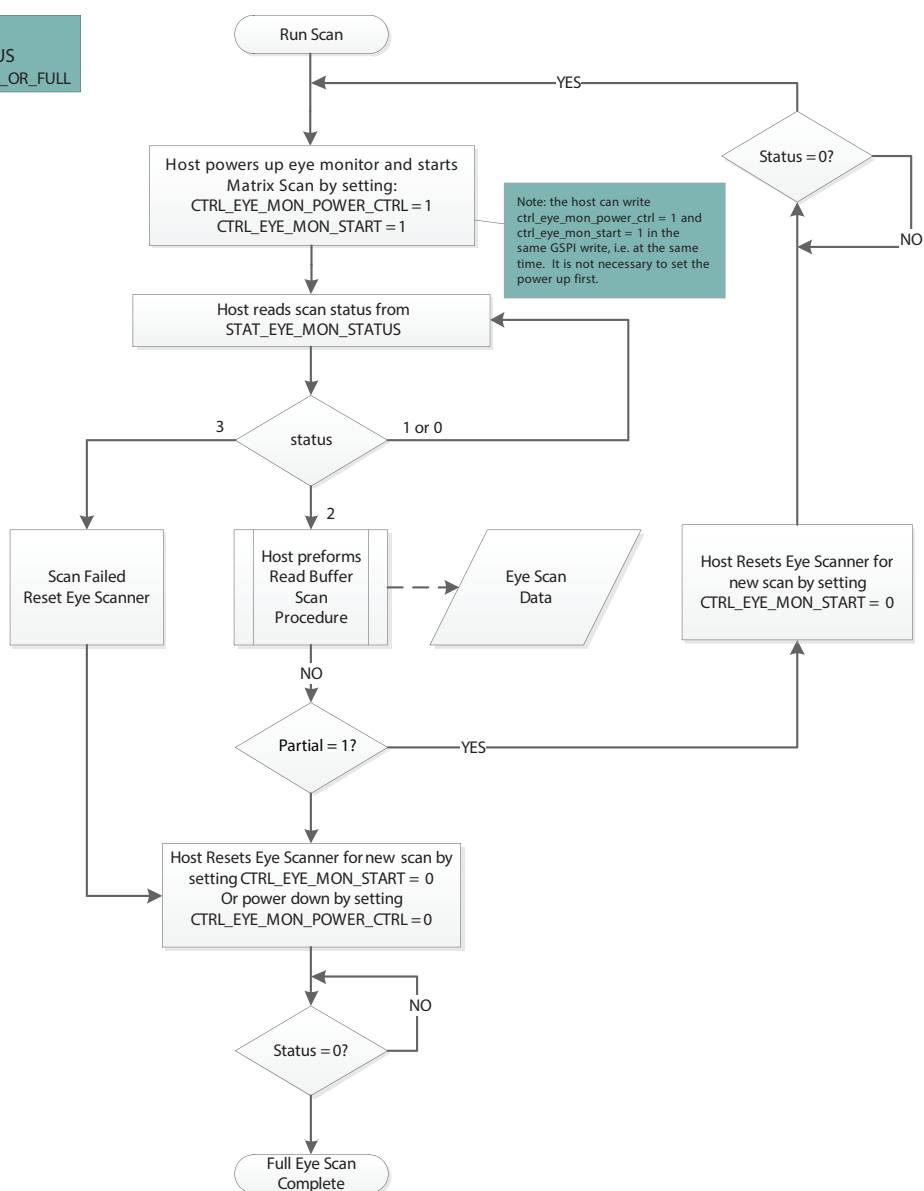

Figure 4-10: Matrix-Scan Flow Diagram
4. Start the scan and poll the scanner status register until the scan is complete. Please refer to the flow diagram in Figure 4-10.